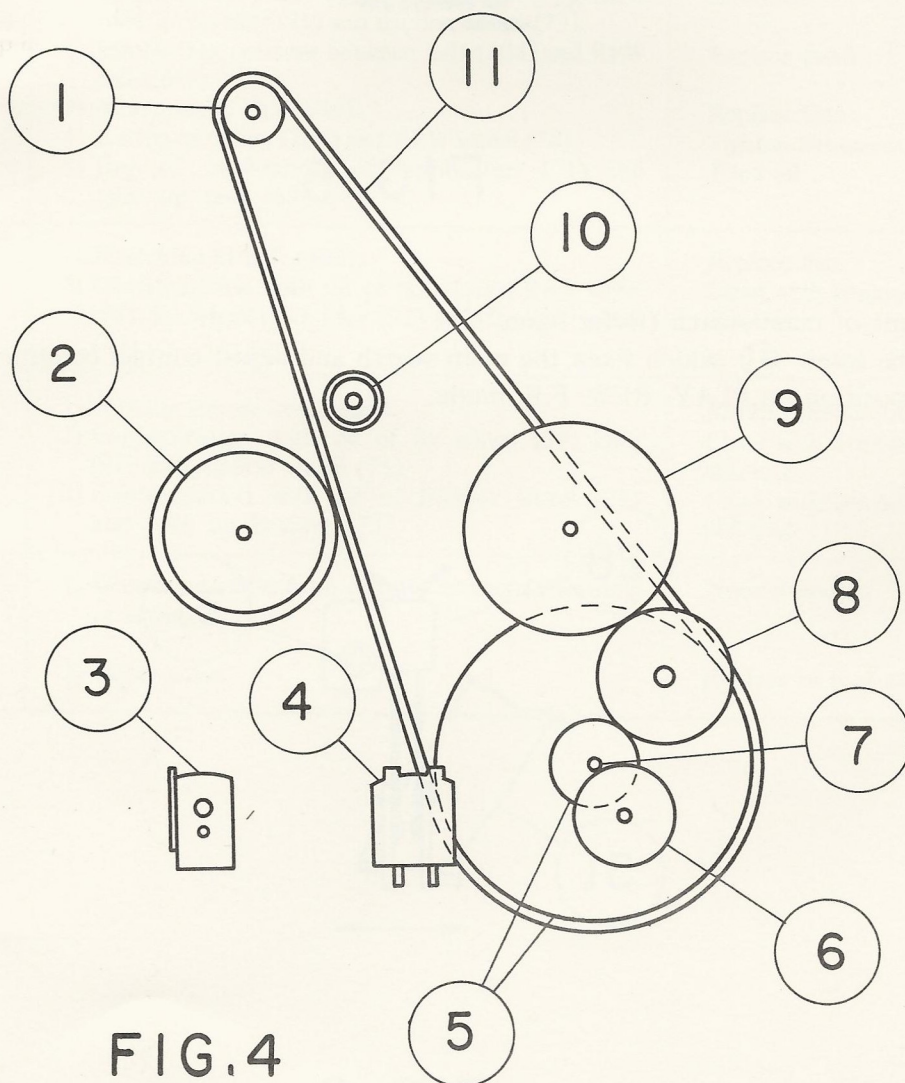

FIG.4
(2) Cleaning (Refer figure. 4).